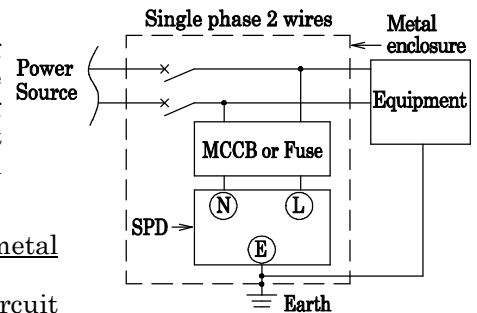

Fig.1 Circuit of the SPD
- a) It is exceptionally difficult to predict the energy involved with lightning since it is a natural phenomenon. In the event of a direct lightning strike exceeding the specification or if there are multiple induced lightning currents in a short period of time, the SPD may deteriorate, short circuit and in the worst case fail. To prevent these problems from occurring and protect other equipment, follow instruction ① or ② below.
- ① The SPD should be installed in a grounded metal enclosure (Ex : metal distribution board), or protected by a grounded metal plate.
- ② If the SPD is used to protect critical equipment, install a Mold Case Circuit Breaker (Recommended MCCB : above 50A rated current) or a Fuse on the electric input side of the SPD. (Ref. Fig.1)
The SPD should be disconnected from the circuit by switching off the isolating switch on the electric input side of the SPD, or switching off the MCCB or the Fuse shown in Fig.1, to provide protection from an electric shock.
During inspection of the SPD, it must be isolated from the circuit by switching off the isolating switch on the electric input side of the SPD, or switching off the MCCB or the Fuse shown in Fig.1, to prevent an electric shock.
- When the maintenance, the SPD should be isolated from the circuit by switching off the isolating switch on the electric input side of the SPD, or switching off the MCCB or the Fuse shown in Fig.1, to prevent an electric shock.